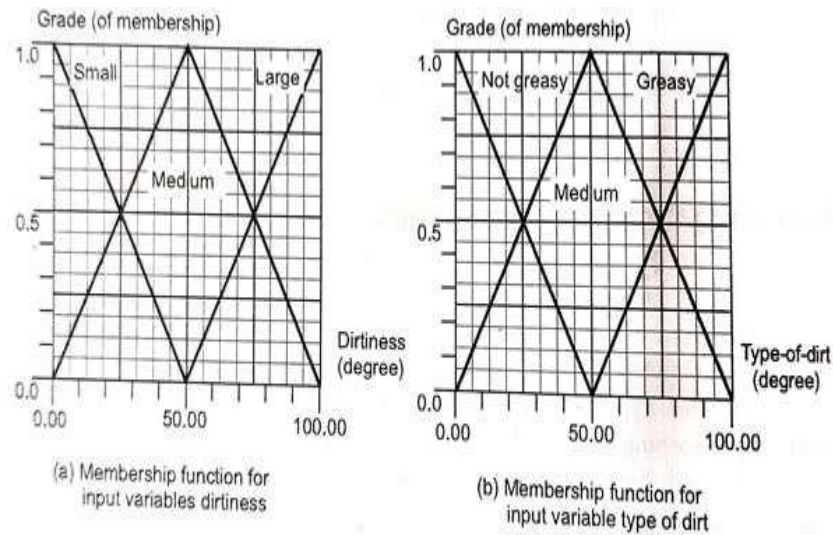

Fig. 6.8.3
- Next is to determine the range of possible values of the input and output variables Fig 6.8.3 (a) next slide shows the grade of membership function versus degree of dirtiness. Observe that the degree of dirtiness is normalized from 0 to 100. The dirtiness is classified as small, medium and large with overlap. Similarly Fig. 6.8.3 (b) shows the membership function versus degree of type of dirt. The degree is normalized from 0 to 100. The type of dirt is classified as not greasy, medium and greasy with overlap. The membership functions are used to translate real world values to fuzzy values and back. Figure 6.8.3 shows such fuzzy values.